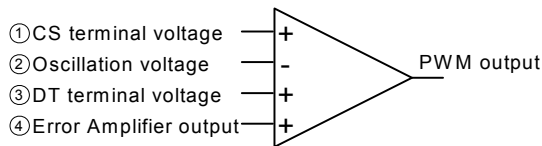
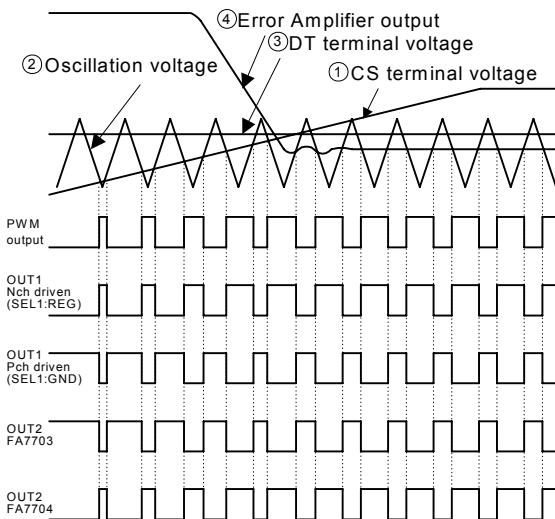
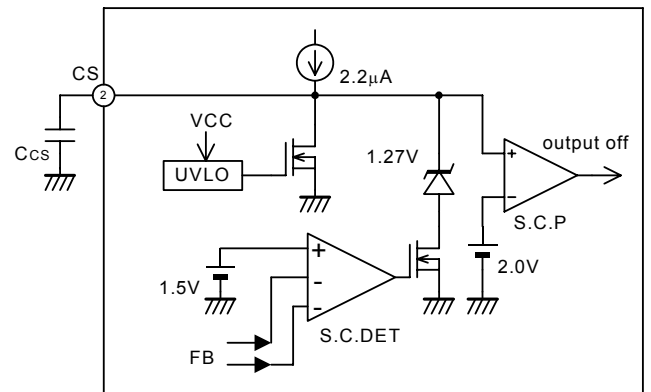

Fig.4
Fig.5
Fig.6
(4) PWM comparator
PWM comparator of FA7703/04 has 4 input terminals. (Fig. 4) The oscillator output ② is compared with the CS terminal voltage ①, the DT terminal voltage ③, and the Error Amplifier output ④. Among those 3 inputs of ①, ③, and ④, the one with the lowest voltage is chosen and given priority. While the value of the chosen voltage is lower than the value of the waveform of oscillator output, PWM comparator output is set to LOW. Similarly, while the value of the chosen voltage is higher than the waveform of oscillator output, PWM comparator output is set to HIGH. (Fig. 5)
When FA7703/04 are turning ON, the soft start function starts according to the CS terminal voltage ①, then the output pulses begin to widen gradually. The maximum pulse width is adjusted by changing the DT terminal voltage. In steady operation, the pulse width is determined with the condition of the Error Amplifier output ④, and then the output voltage of DC-DC converter is stabilized. The operation flow chart of PWM comparator and OUT terminal is shown in Fig. 5. The output polarity of OUT1 terminal changes according to the condition of SEL1 terminal. The polarity of OUT 2 terminal is different between FA7703 and FA7704; accordingly, select the type for your desired circuit design.
As described in Fig. 6, a capacitor Ccs is connected to CS terminal. When the power supply of FA7703/04 starts and the undervoltage lockout protection circuit (UVLO) is cancelled, the capacitor Ccs is charged by the internal current source (2.2μA. typ.), and the voltage of CS terminal rises gradually. Since the voltage of CS terminal is connected to PWM comparator, the output pulses begin to widen gradually, and then the soft start function starts as a result. (Fig. 5)